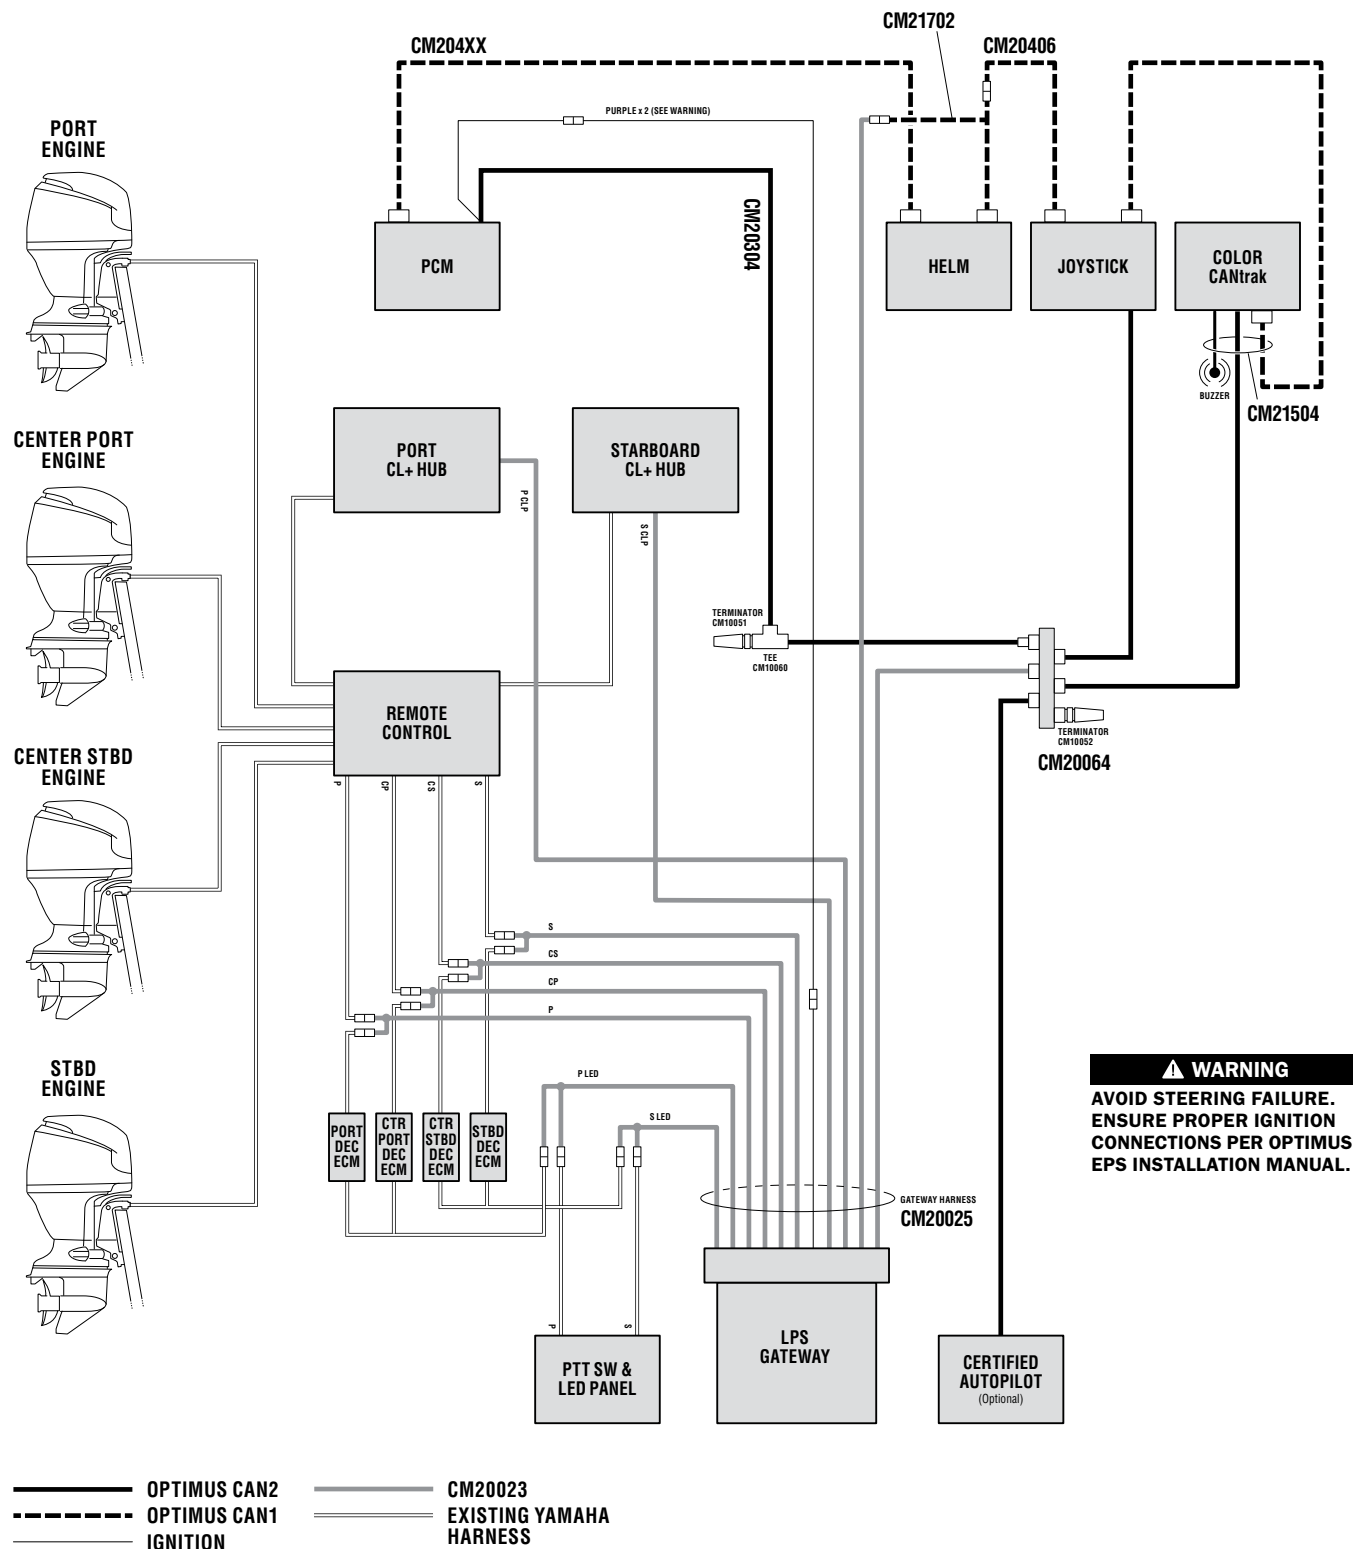
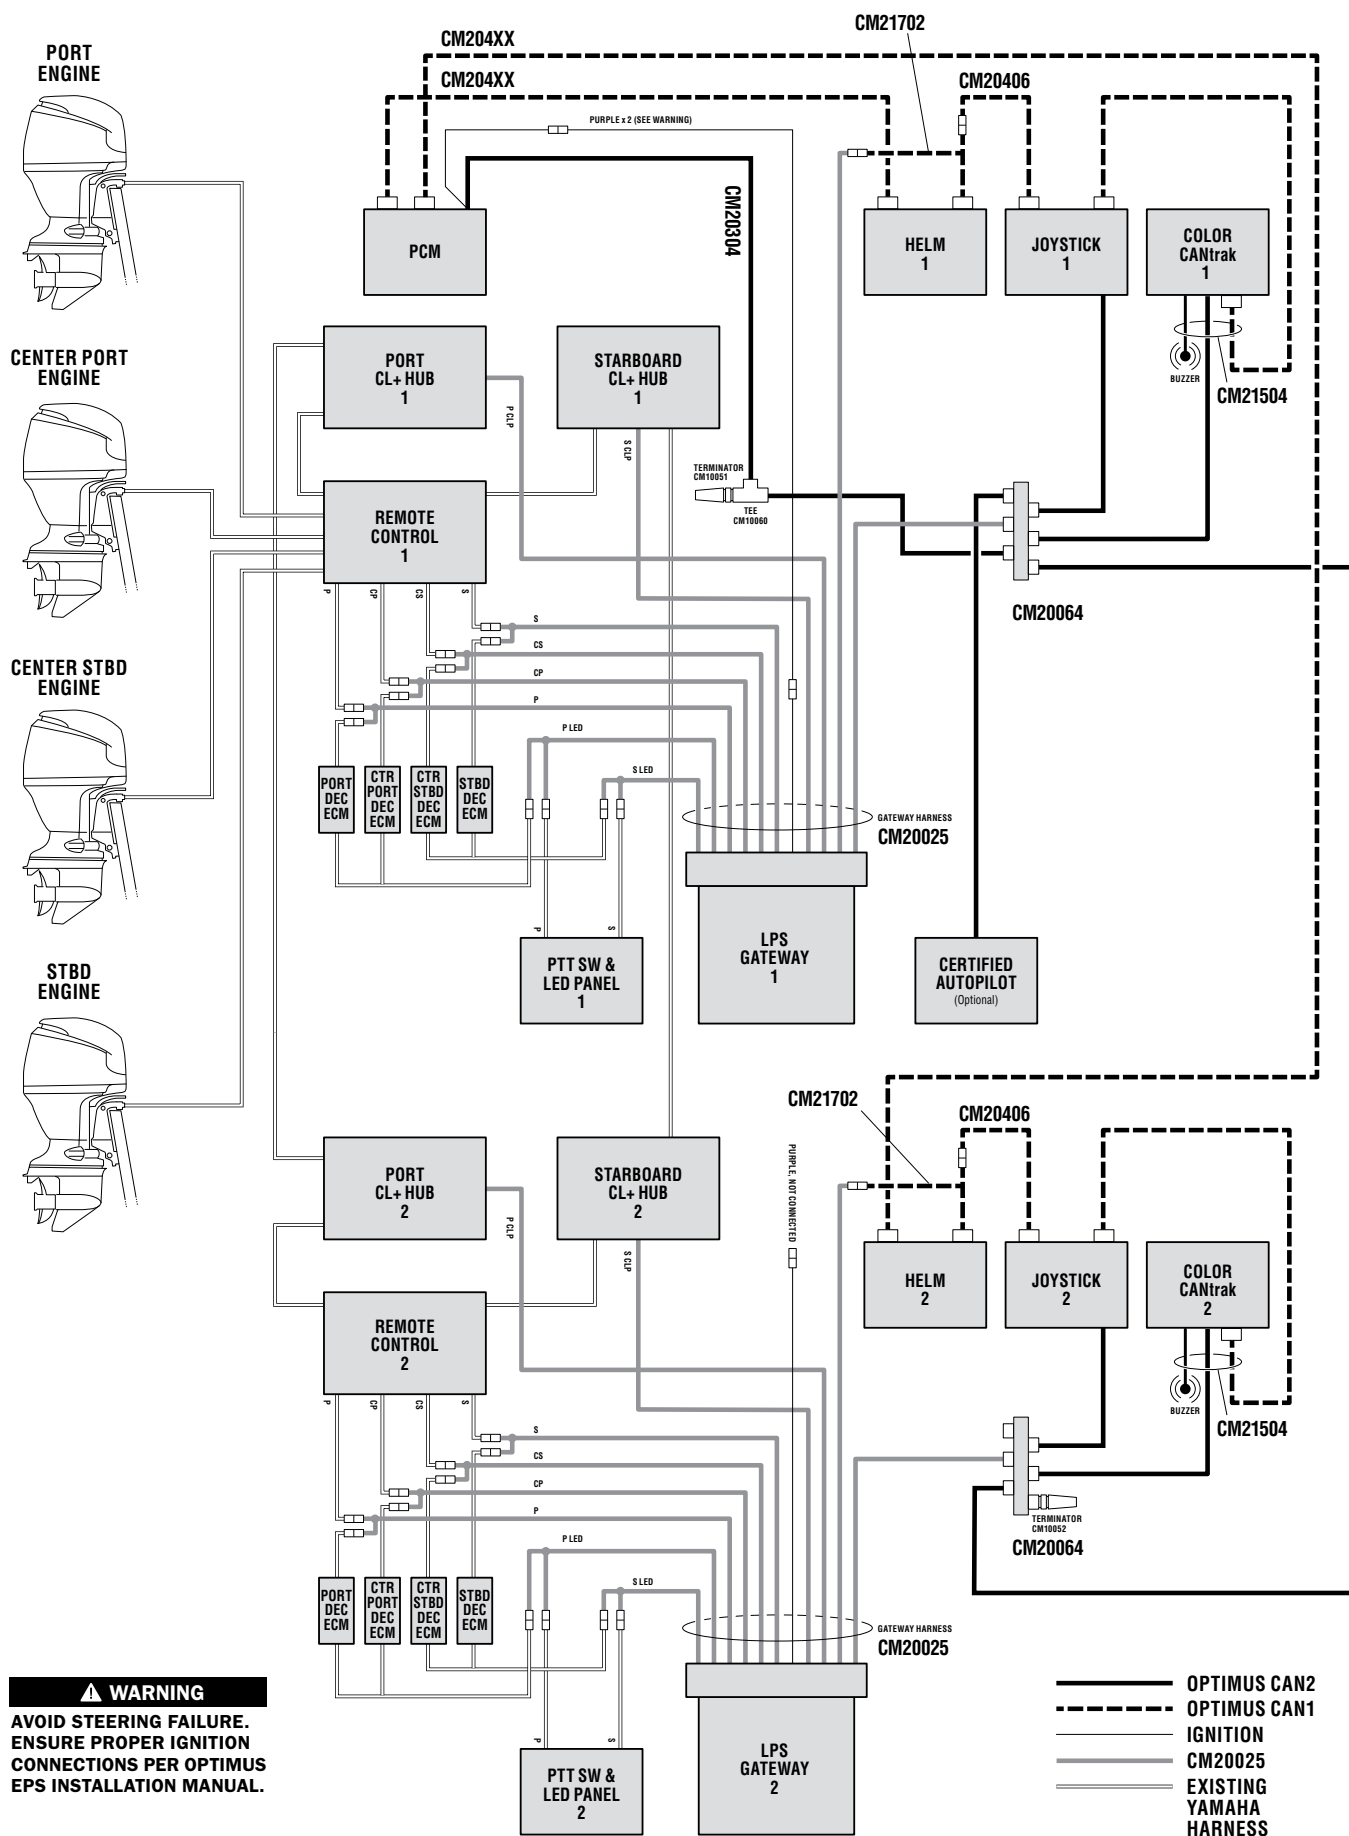

Figure 7-10. Yamaha EST – single station, quad engine, Generation 1.
Figure 7-11. Yamaha EST – dual station, quad engine, Generation 1.
**Quads – Generation 1:** As shown in figure 7-10 and figure 7-11, the quad (Generation 1) Yamaha system is rigged with two independent CommandLink Plus networks. The Optimus EST Gateway must connect to both of them with gateway harness CM20025. It is important that the harness connectors are mated with the correct hub. (i.e. The connector labeled 'P CLP' must be connected to the CL+ hub for the port pair of engines.)